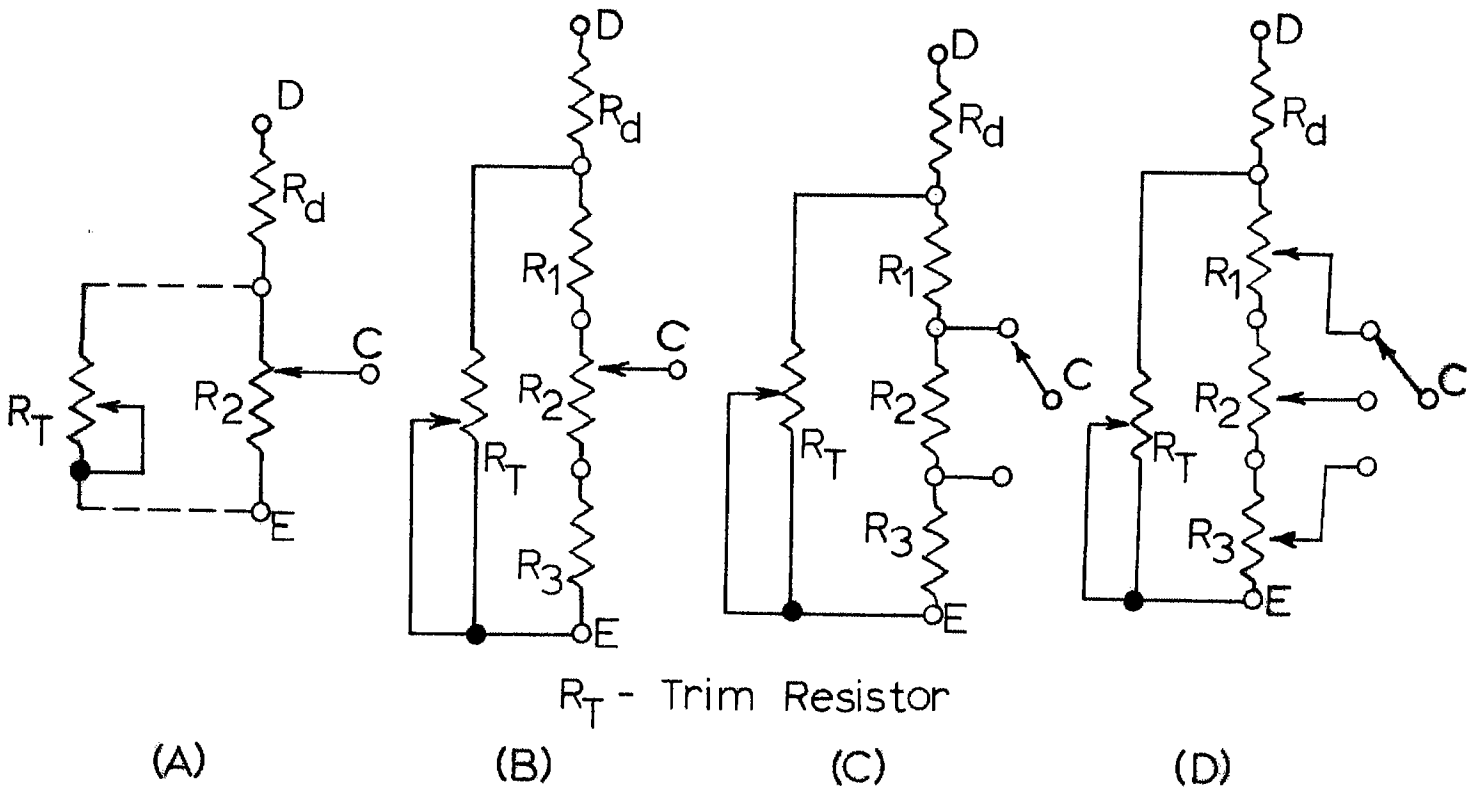

Figure 3.6-Programming Networks
A number of external temperature programming networks are shown in Figure 3.6.
- C. To insure that the total resistance between pins E & D of the external programming voltage divider be of the correct value to develop a drop of 3 volts across the programming resistor, it is suggested that the divider calculation be based on more than 1600 ohms per 1 volt and a shunting resistor (R_T in Fig. 3.6) used for precision trimming to 3 volts.